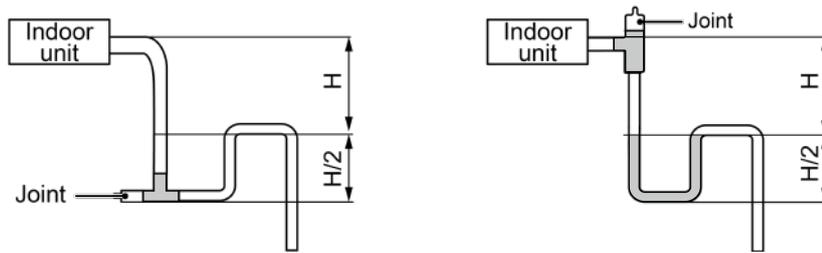

Fig.4.3.5
- (5) Install the trap as shown in following Fig.4.3.5.
- (6) Install one trap for each unit.
(7) Convenience for cleaning trap in the future should be considered when installing it.